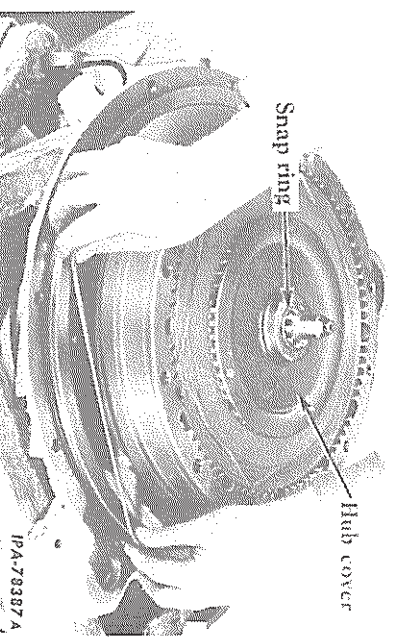

FIG. 28 – Installing the Clutch Housing Sealing Seal
25. Install the splined center and disc assembly on the snap ring in the clutch shaft. Secure to the shaft with the snap ring. The hub cover in the splined center and disc assembly must face up when the assembly is installed. Install the clutch housing sealing ring around the flange of the housing (Fig. 28).